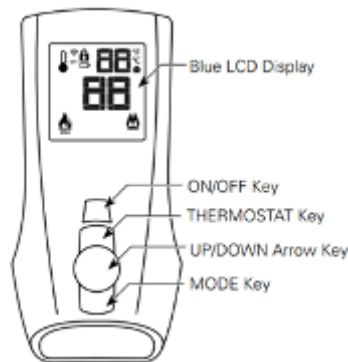

FIGURE 11
1. Insert the three (3) provided AAA batteries into the battery bay in the remote. Correctly align polarity (+/-).
3. Push the “ON” button on the remote (**Figure 11**). The control module will beep four (4) times to indicate acceptance of the remote’s command. The system is now synchronized.
With the system in the “OFF” position, press the Thermostat Key and the Mode Key at the same time (**Figure 11**). Look at the LCD screen on the Remote to verify that a C or F is visible to the right of the Room Temperature display (**Figure 13**).
The IPI selection is the intended setting for the appliance operation. If remote is in CPI mode, it must be returned to the IPI mode. To turn it back the remote needs to be OFF. With the system in the OFF position, press the Mode Key (**Figure 11**) once to index to the CPI mode icon. Pressing the DOWN Arrow Key will return to IPI. A single “beep” will confirm the reception of the command (**Figure 15**).